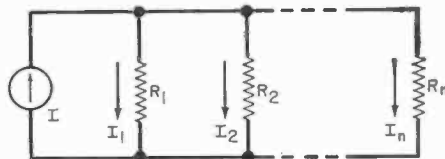

Fig. 19
B. Current Divider. An example of a current divider is shown in Fig. 19. Since the resistors are connected in parallel and the same voltage is across each, the current in R_n is: $I_n = G_n I / (G_1 + G_2 + \dots + G_n)$. For two resistors, R_1 and R_2 , in parallel: $I_1 = G_1 I / (G_1 + G_2) = R_2 I / (R_1 + R_2)$
Ex. 18. In Fig. 19, assume $n = 2$, $R_1 = 15$ ohms, $R_2 = 10$ ohms, and $I = 10$ A. Find the currents in R_1 and R_2 . *Sol.* $I_1 = R_2 I / (R_1 + R_2) = 10 \times 10 / (15 + 10) = 4$ A. $I_2 = R_1 I / (R_1 + R_2) = 15 \times 10 / (15 + 10) = 6$ A.